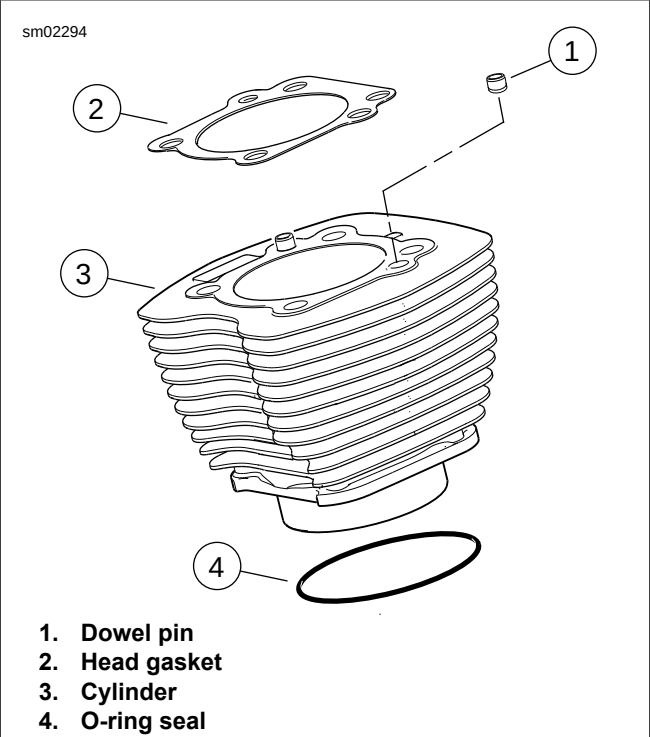

Figure 3-27. Cylinder Assembly
5. See Figure 3-27. Remove O-ring seal (4) from the bottom of the cylinder liner. Discard O-ring seal.